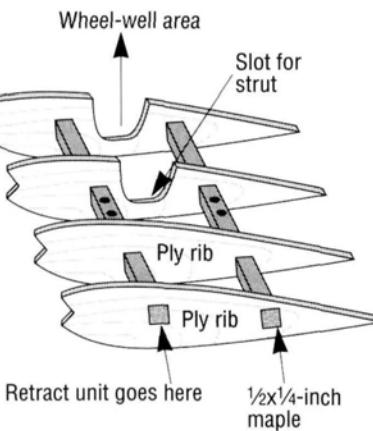

FIGURE 2 RIB
• **Retracting gear.** The same general principles apply, but the bearers are enlarged a little. We've found that extending the gear mounts one wing rib bay inboard increases the structure's life (see Figure 2). Once again, the ribs should be plywood along their entire length. Never cut a wing spar to install retracting gear unless a secondary spar has been installed parallel to the first one before cutting.